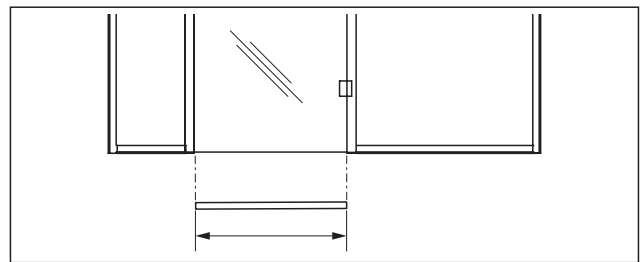

Fig. 6 Align the width of the drop-down seal with the width of the glass door on the hinge side
2. Make sure that the drop-down seal corresponds to the width of the door on the hinge side (Fig. 6).